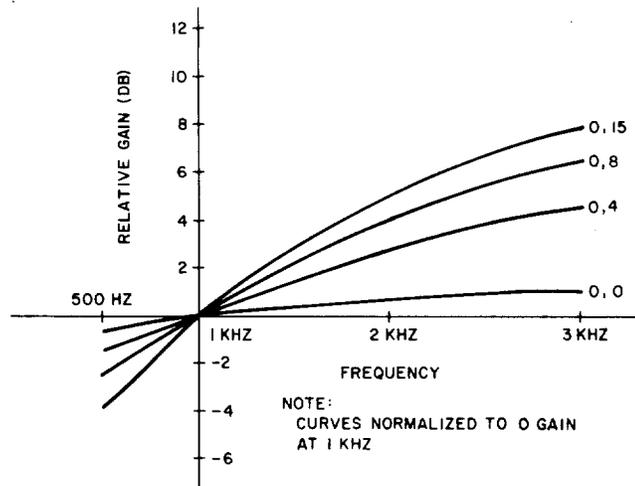

Fig. 8—Amplifier/Equalizer Response C=0
4.02 Figures 8 and 9 give the frequency response of the gain and equalizer unit for the J99343PB, L1 and L2. Figure 8 gives the response curves for various equalizer settings with the C switch set to 0. Fig-